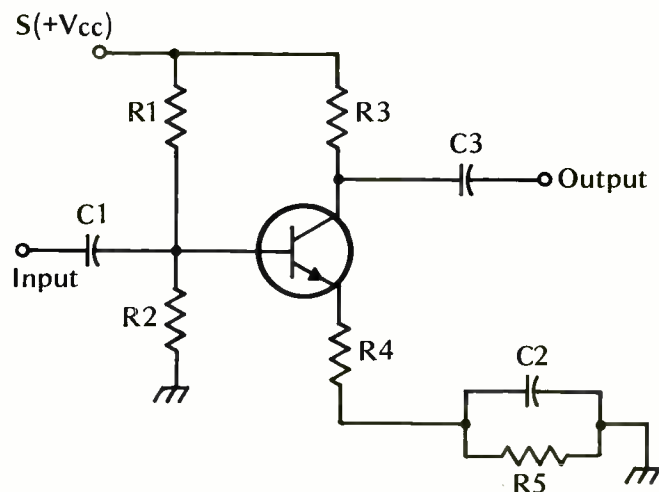

Figure 1: schematic diagram of amplifier
The transistor amplifier circuit of figure 1 is perhaps the most common circuit configuration. It is an NPN transistor used in the common-emitter circuit to provide gain in audio and other low-frequency applications. Depending on the values of the resistors and capacitors used, it can provide gain in the range of five or less up to a hundred or more. It can operate at supply voltages from a few volts up to a hundred volts (with suitable transistors), at currents ranging from a fraction of a milliampere up to several tens of ma.
- R_1 = top base bias resistor (see figure 1)